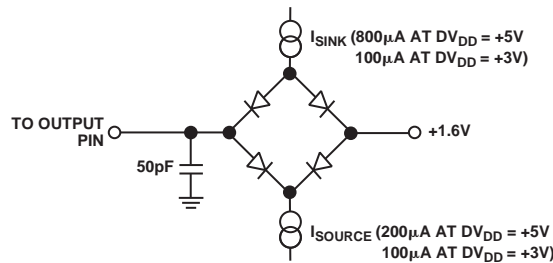

Figure 1. Load Circuit for Access Time and Bus Relinquish Time
- 4These numbers are measured with the load circuit of Figure 1 and defined as the time required for the output to cross the VOL or VOH limits.
- 6These numbers are derived from the measured time taken by the data output to change 0.5 V when loaded with the circuit of Figure 1. The measured number is then extrapolated back to remove effects of charging or discharging the 50 pF capacitor. This means that the times quoted in the timing characteristics are the true bus relinquish times of the part and as such are independent of external bus loading capacitances.